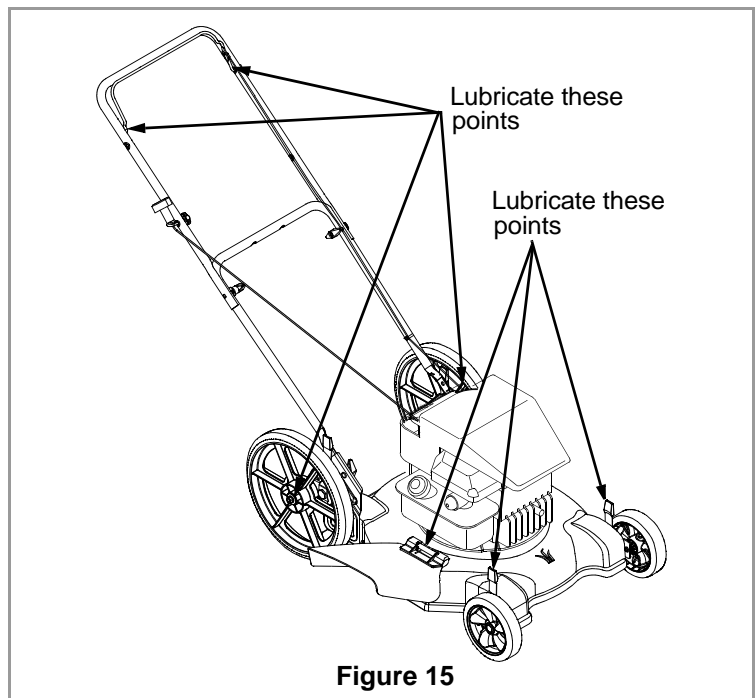

Figure 15
(See Figure 15)
- Lubricate the pivot points on the blade control handle at least once a season with light oil. The blade control must operate freely in both directions. See Figure 15.
- Lubricate the torsion spring and pivot point periodically with light oil to prevent rust. See Figure 15.